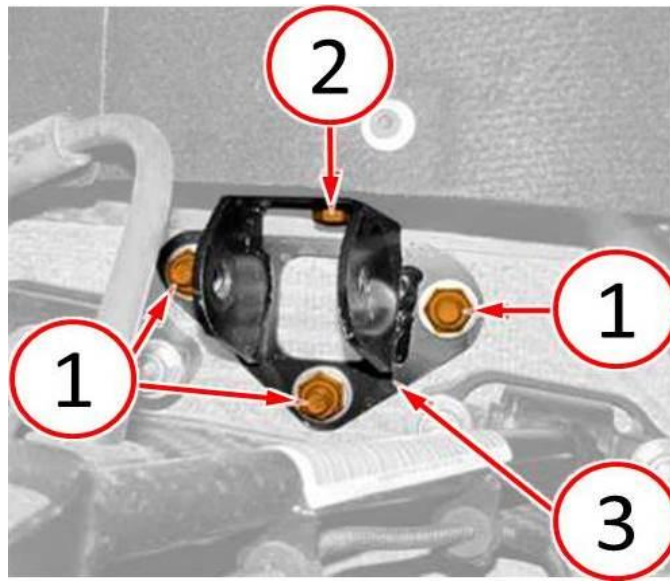

Fig. 3 Remove Shock Absorber Upper Bracket
6. Remove and discard the nuts (1) from the shock absorber bracket (Fig. 3).
7. Remove and discard the bolt (2) from the shock absorber bracket (Fig. 3).
8. Remove the shock absorber bracket (3) from the vehicle (Fig. 3).